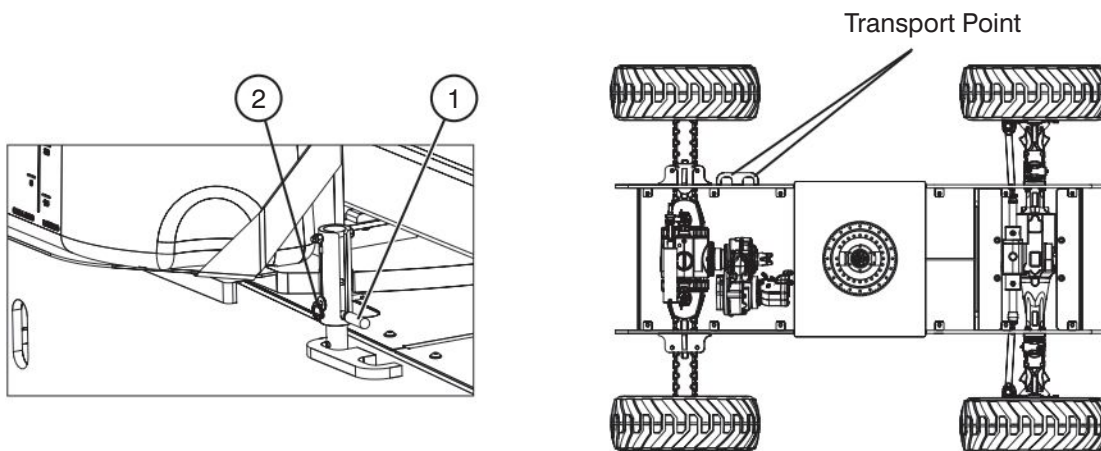

Figure 3-9. Turret Transportation Lock & Locking Points
1. Ensure that turret is positioned so that turret transportation lock tube (item 1 - Figure 3-9) is aligned into one of two turret locking points in the turret rotation lock plate.
2. Pull out turret lock retaining pin (item 2 - Figure 3-9). Lower turret lock into locked position and reinsert turret lock retaining pin.
1. Place boom in stowed position centered between drive wheels. Lock turret using turret transportation locking pin (refer to Section 3.10-2) into the transport point (refer to Figure 3-9).